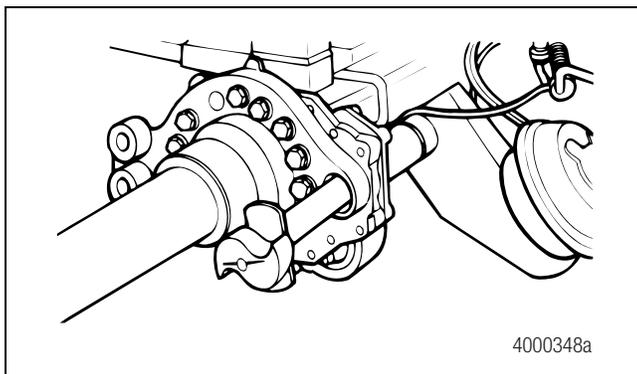

Figure 3.12
2. Install the camshaft through the spider and bracket so that the camshaft turns freely by hand. Figure 3.12.